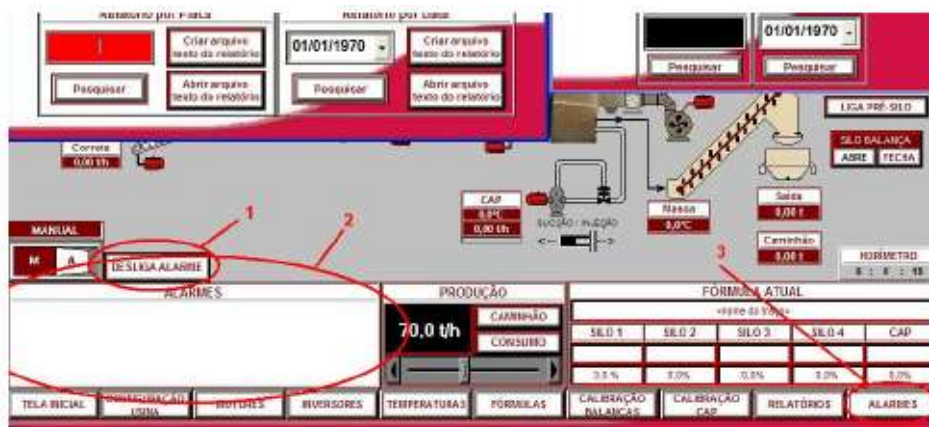

Figure 32 - Alarm Signals
Whenever an irregularity occurs on the Asphalt Plant, it will be signaled by an alarm and a message will be given on the computer screen as shown in figure 32 (item 2).